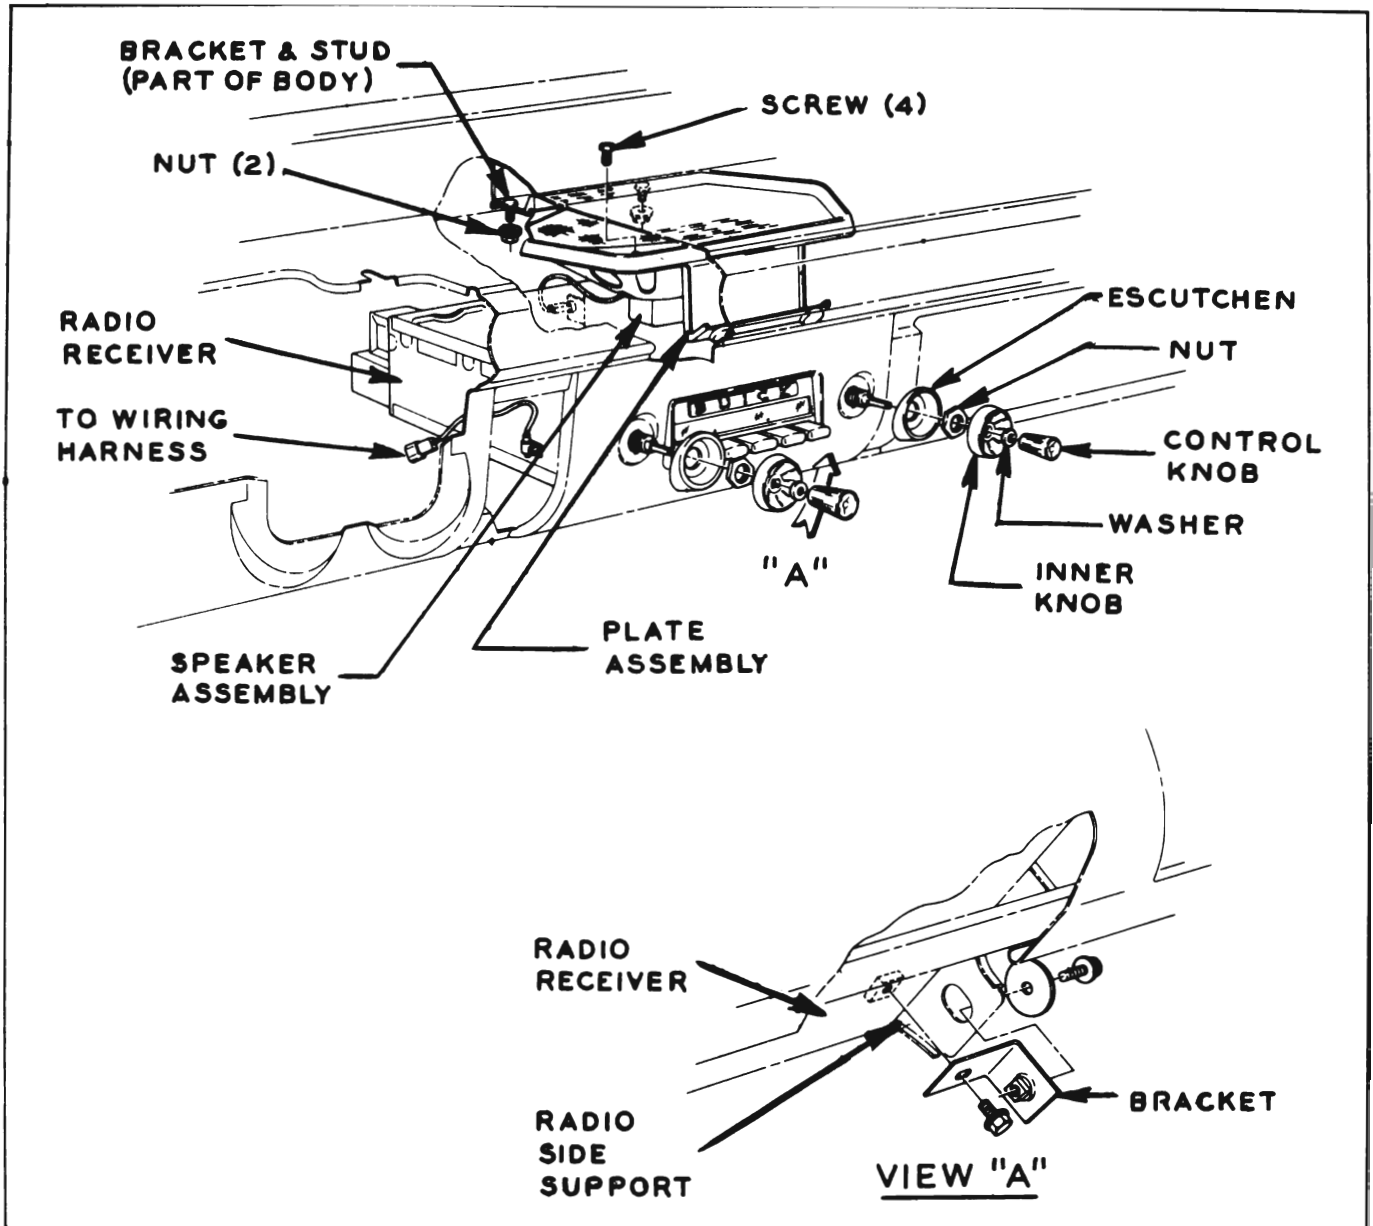

Figure 11-2—Radio Receiver and Speaker Installation
2. Install receiver from beneath, inserting threaded bushings through control holes in instrument panel. Install and tighten hex nuts on bushings. See Figure 11-2.